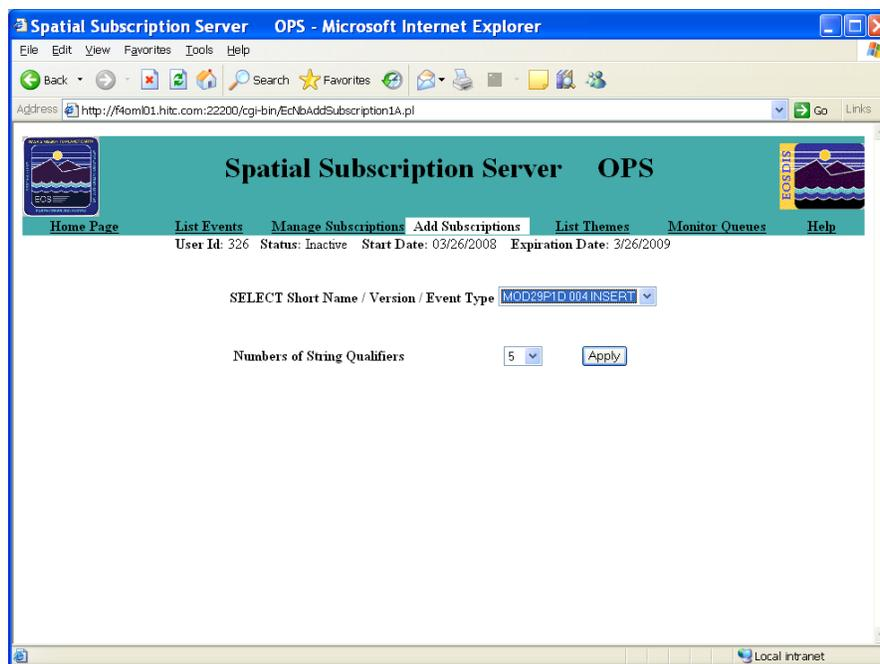

Figure 16.1-6. String Qualifiers
- A **SELECT Short Name/Version/Event Type** option button and a **Numbers of String Qualifiers** button are displayed (see Figure 16.1-6), along with an **Apply** button.